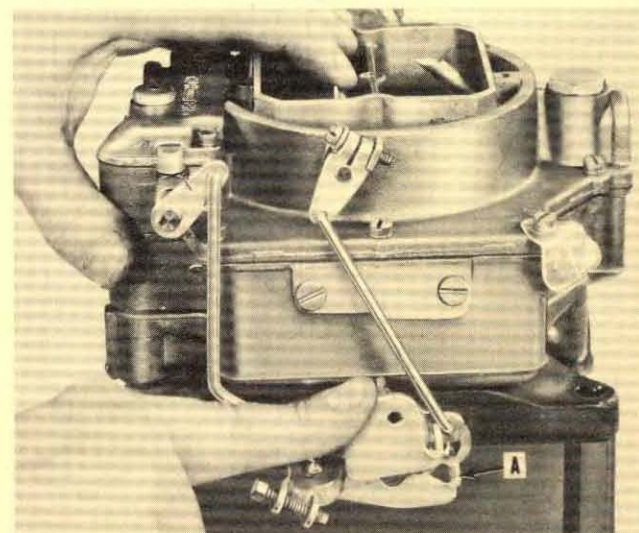
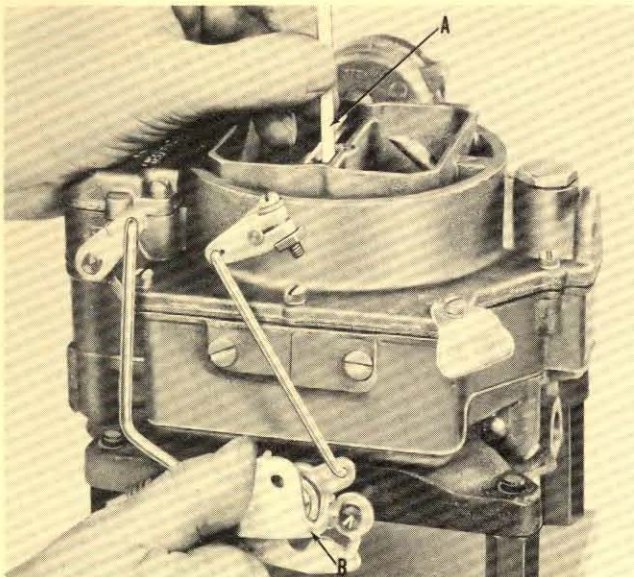

Fig. 14
Fig. 15
7. Unloader Adjustment: First hold the choke valve wide open, then push the throttle wide open, Fig. 14, release the choke so it will close. While holding the throttle wide open, there should be $3/16$ " clearance (Tool No. T109-28) between the upper edge of the choke valve and the inner wall of the air horn. "A" Fig. 15. Bend unloader lip "B" to get the proper choke valve clearance. Use bending Tool T109-41.